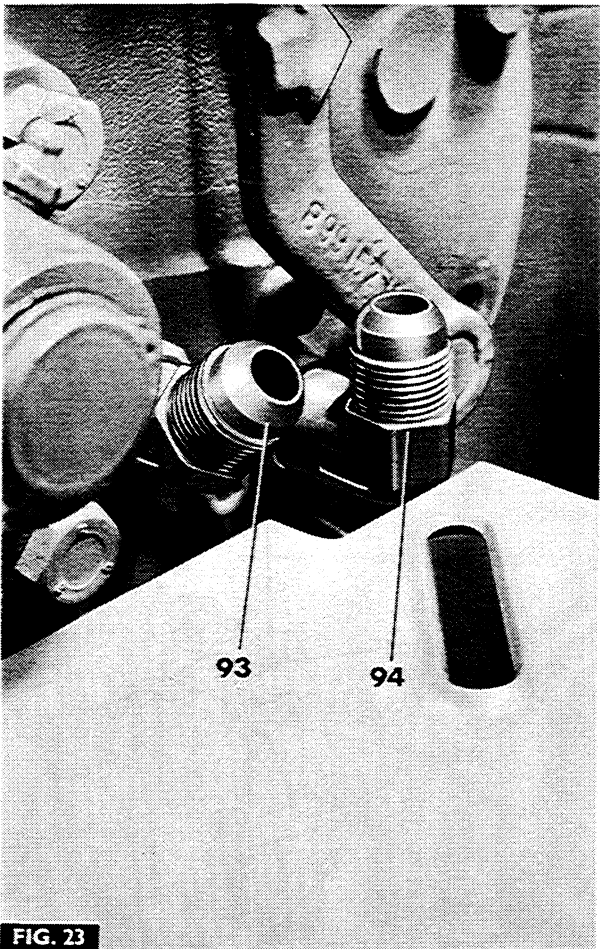

FIG. 23
10. Fig. 23. Fit the two unions (93 and 94) to the p.t.o. side cover, as shown.